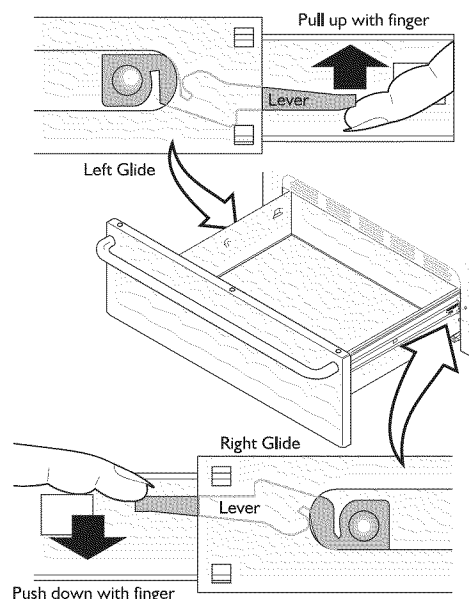

Fig. 1
- b. Locate glide lever on each side of drawer, pull up on the left glide lever and push down on the right glide lever (See Fig. 1).